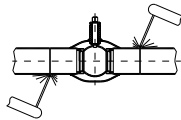

Figure 1.
- 3.1.5 The valve shall be completely open when welded into horizontal piping (Fig. 1).